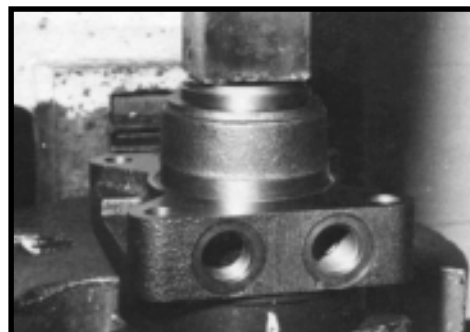

Figure 41
The Large Frame Series TF, TG & TJ Torqlink™ dirt and water seal (20) must be pressed in with the lip facing out and until the seal is flush to .020 inches (.51 mm) below the end of housing. SEE FIGURE 41.